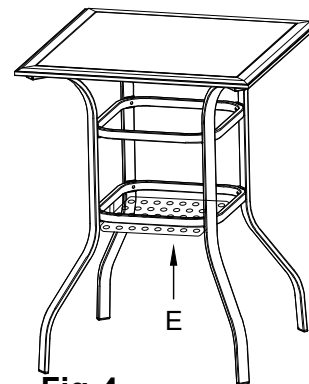

Fig.4
Step 4: Put the support shelf properly. Please see Fig. 4.